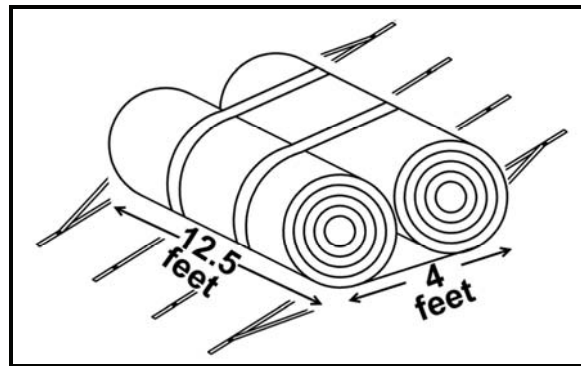

Figure 21. Rolled berm liner.
9. Measure the folded berm liner width to approximately 12 feet 5 inches (Figure 21).
10. Secure the berm liner with ratchet straps (Figure 21).